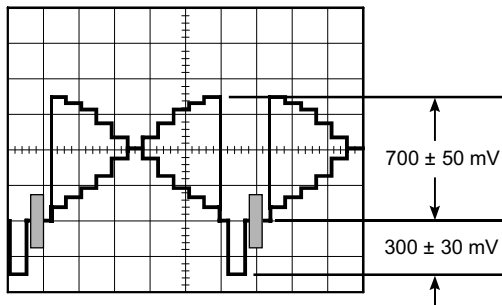

Fig. 4-17
- Confirm that the Video Output signal level becomes 700 ± 50 mV as shown in Fig. 4-17.